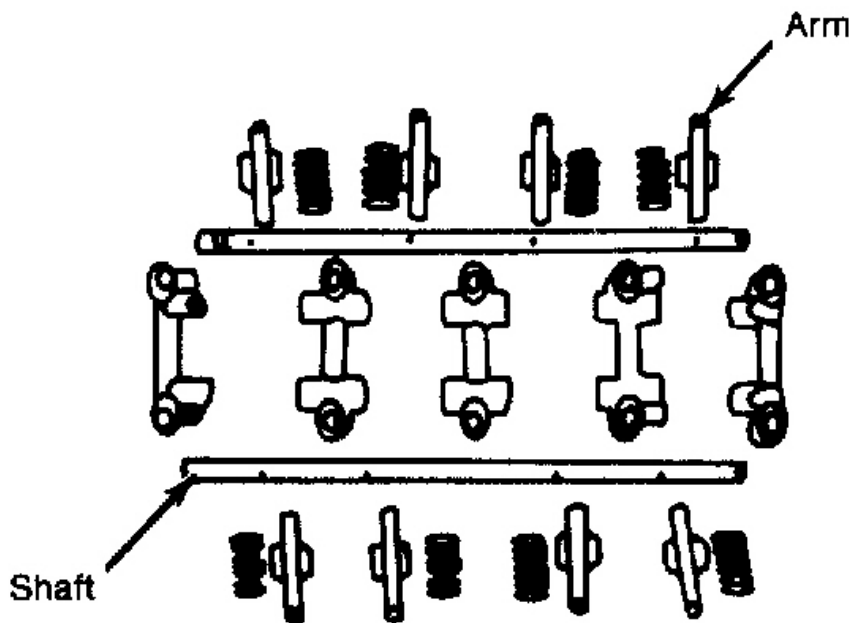

Fig. 4: Disassembled View Of Rocker Arm Assembly
2. If clearance exceeds maximum limit, replace rocker arms and/or shafts. Reassemble in reverse of disassembly, noting that all rocker arms are identical, but that all rocker stands are different. See **Fig. 4**.